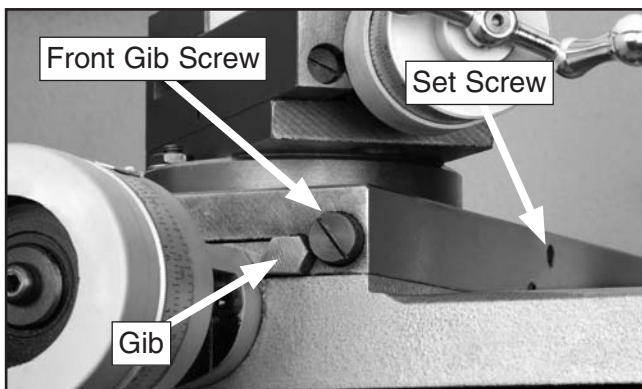

Figure 83. Cross slide gib components.
This gib is a wedge-shaped plate that, depending on which direction it is moved, either increases or decreases pressure on the sliding components around it. **Figure 83** shows the gib components for the cross slide.
1. Loosen the set screw on the side of the cross slide (see **Figure 83**).